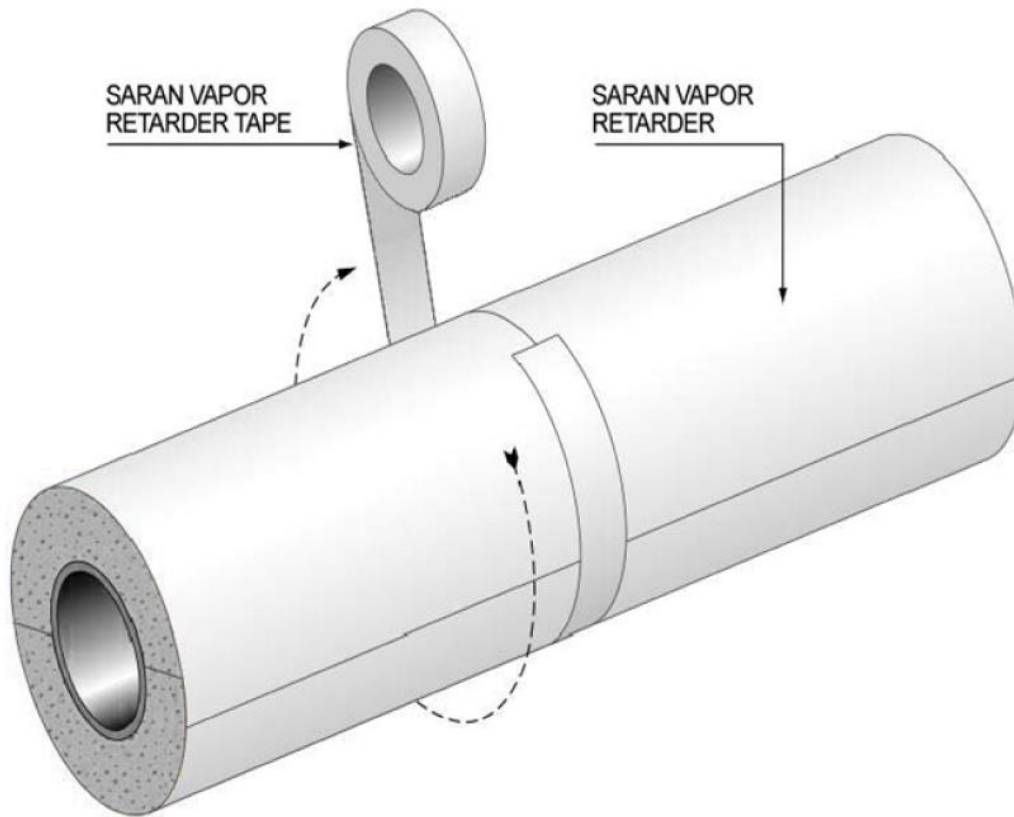

**Figure 2**
- 3.5.3.1 Underground jacketing shall be vapor retarder material with chemical resistance to ground water. Products to be used are Saran 560 as manufactured by ITW Insulation Systems or 50 mil self-adhesive laminated membrane type vapor retarder product. For trench details refer to Figure 2 in Appendix B.